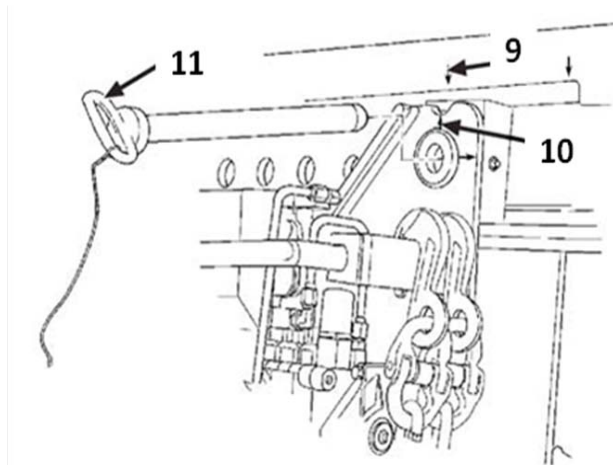

Figure 6- Pivot Pin Insertion for Mast
6. Insert pivot pins (11) into aligned holes (9 and 10). Do not insert spring clips into pivot pins. (figure 6)